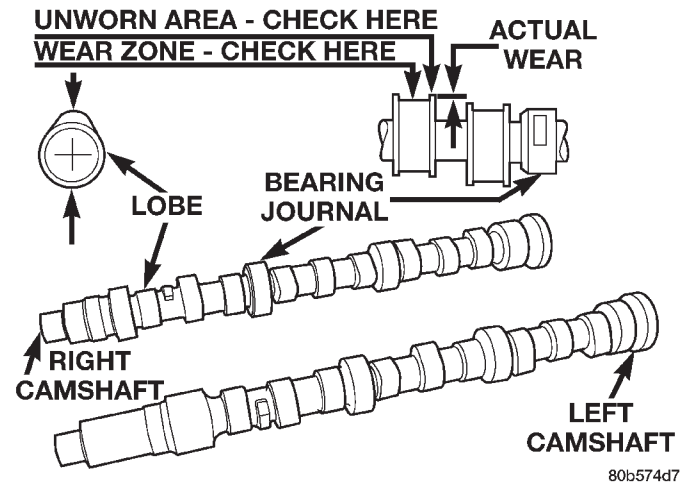

Fig. 108 Camshaft Inspection
(1) Inspect camshaft bearing journals for damage and binding (Fig. 108). If journals are binding, check the cylinder head for damage. Also check cylinder head oil holes for clogging.
(2) Check the cam surface for abnormal wear and damage and replace if defective. Measure the actual wear (Fig. 108) and replace if out of limit, standard value is 0.0254 mm (.001 in.), wear **limit** is 0.254 mm (0.010 in.).